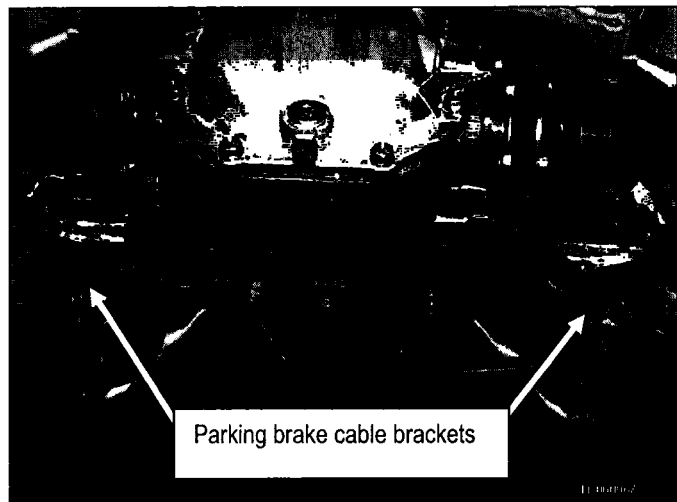

Figure 20
- a. Remove the nuts that hold the parking brake cable brackets to the rear suspension member (see Figure 20).